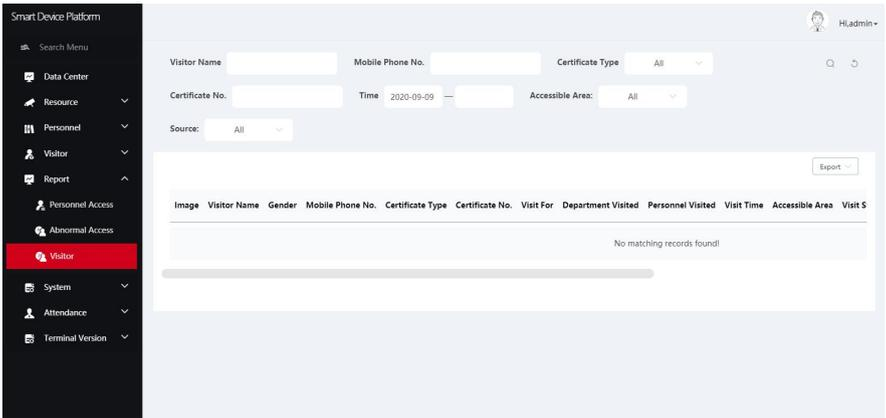

Figure 5-59
- Step 1:** In the smart device platform interface, click "Report→Visitor" to enter the Visitor interface, as shown in Figure 5-59 below.